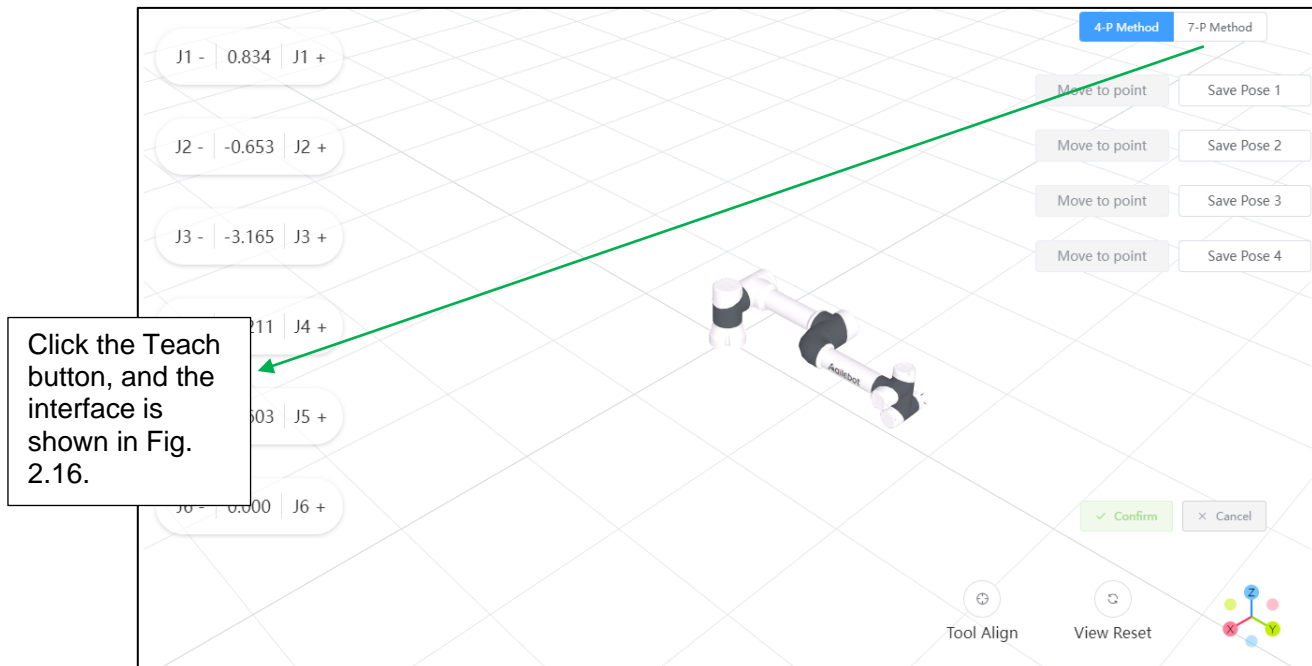

Fig. 2.15 Tool Coordinate System Setting Interface 3
2. Click "Teach" the interface is shown in Fig. 2.15.